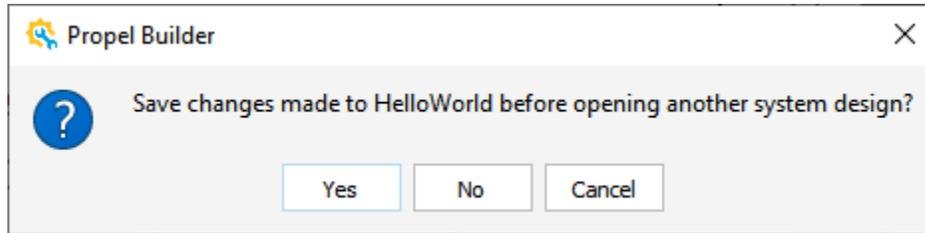

Figure 2.66. Propel Builder Dialog Box
2. Click **Switch Verification and Soc Design** icon  from Propel Builder GUI Toolbar. Propel Builder dialog box opens (Figure 2.66), if a project is not saved.